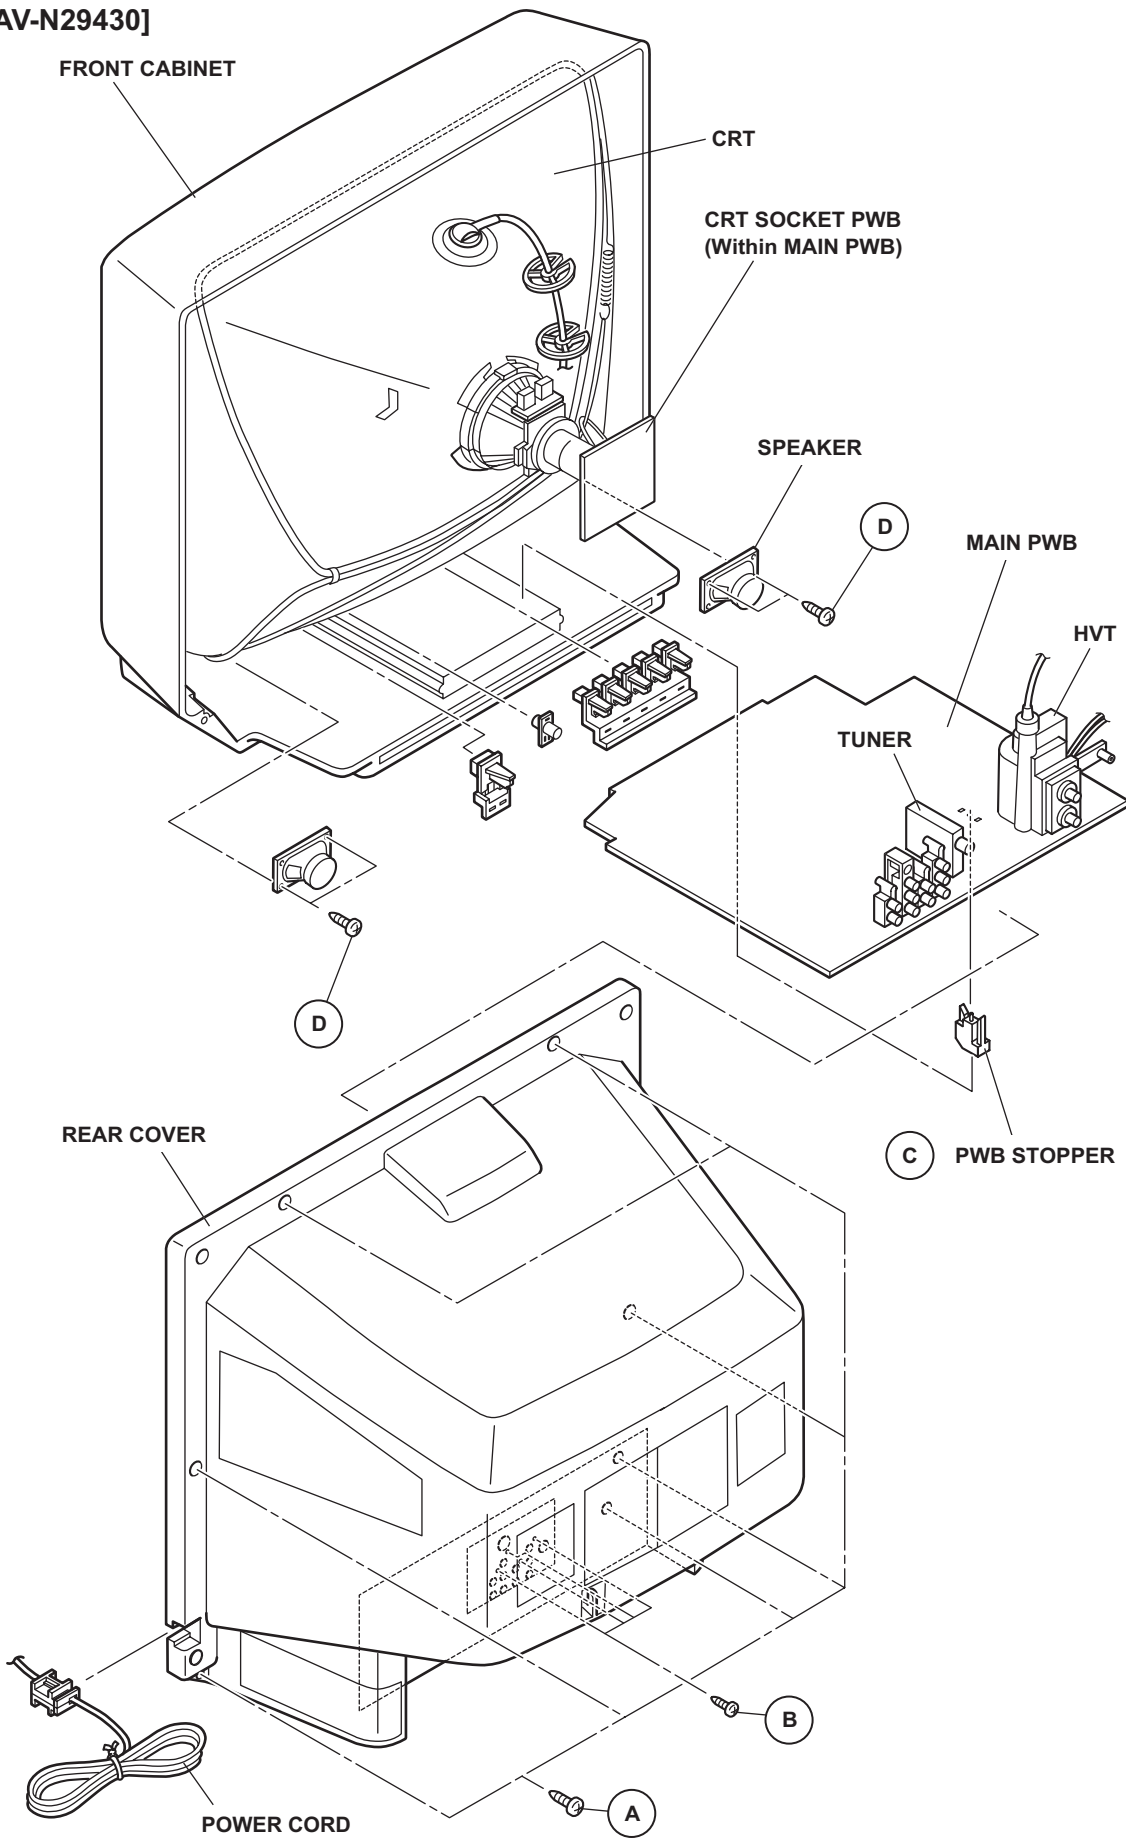

Fig.2
- (1) Unplug the power plug.
- (2) Remove the 7 screws **[A]** (Fig.2).
- (3) Remove the 4 screws **[B]** (Fig.2).
- (4) Then remove the REAR COVER toward you.
- (1) Remove the 4 screws **[D]**, then remove the speaker (Fig.2).
- (2) Follow the same steps when remove the other hand speaker.